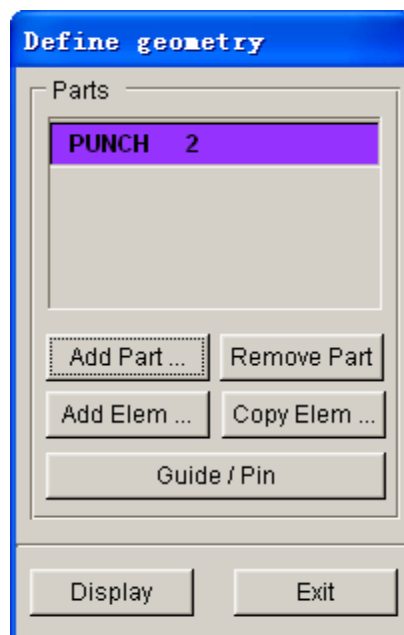

Figure 7.17 Punch geometry list
7. Click **OK** button to return to the DEFINE GEOMETRY dialog box. The **PUNCH** part is added to the list. See Figure 7.17.